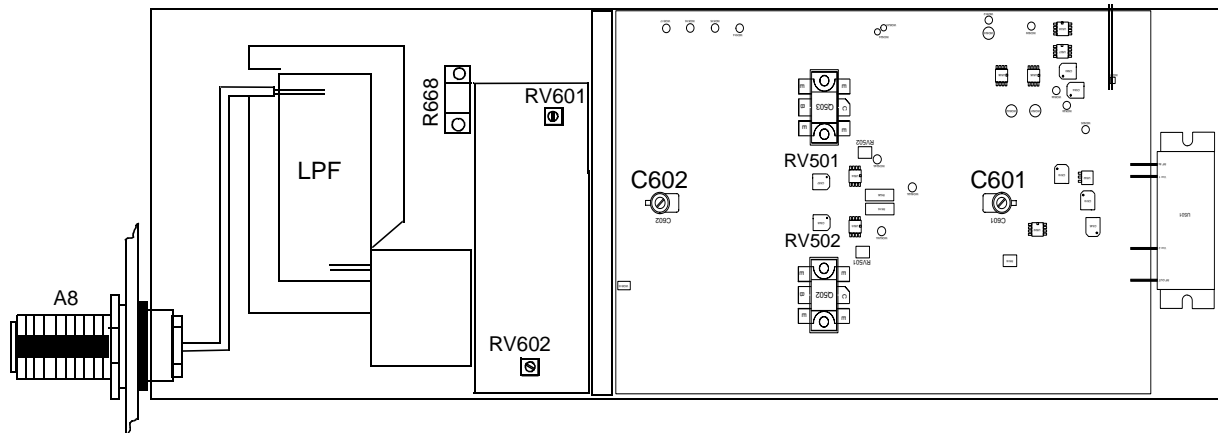

Figure 7-3 110W POWER AMPLIFIER ALIGNMENT POINTS
Refer to Figures 7-3 and 7-4 for component locations. Refer to Figure 7-8 for equipment needed and setup diagram. Select "PA" from the "TEST" menu in the Repeater Software.
1. Set RV501 on the PA fully counterclockwise. Set RV502 on the PA fully clockwise, see Figure 7-3.
2. Set Forward Power Adjust RV601 and Reflected Power Adjust RV602 on the power detector board fully counterclockwise (see Figure 7-3).
7. Monitor the output power and tune C601 and C602 for maximum output power (see Figure 7-3).